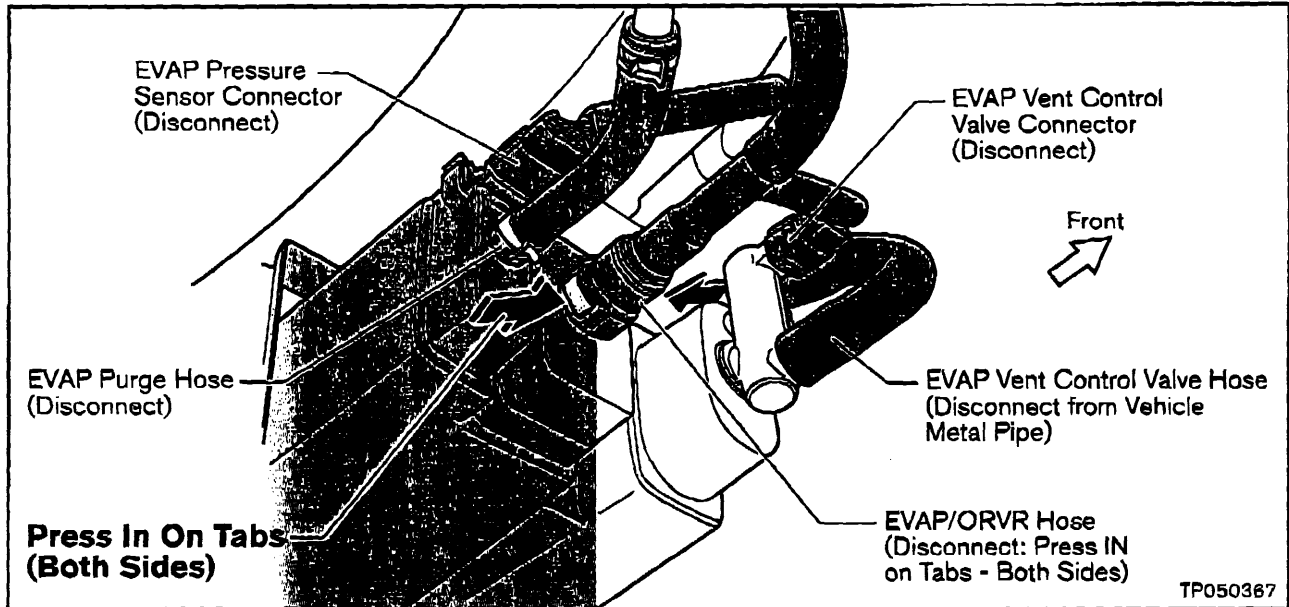

Figure 13
2. Disconnect the following from the EVAP Canister (refer to Figure 13):